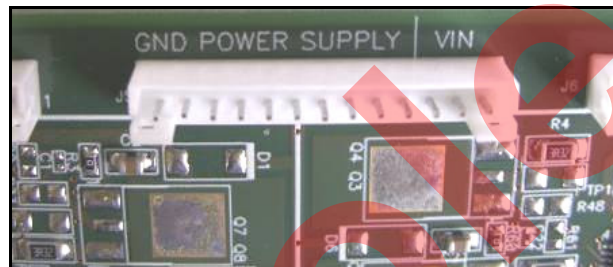

Figure 18: GND Power + Vin Connector
3. GND POWER + Vin – 13 pin Connector (see Figure 18)